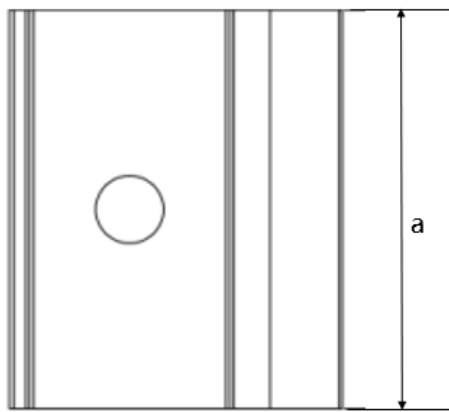
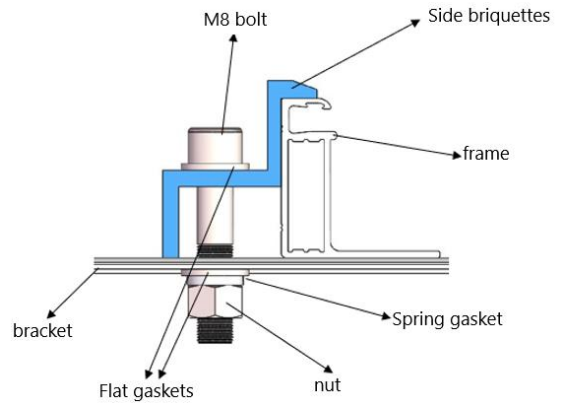

Fig. 7 Top view of fringe clamp
Fig. 9 Installation schematic diagram of fringe clamp
- ① Place the module on the two supporting rails (not provided by Astronergy) which should be made with stainless material and treated with an anti-corrosion process (e.g. hot dipped galvanizing). Each PV module needs at least four clamps to be fixed. The module clamps should not come into contact with the glass and should not deform the frame, otherwise they may cause module damage.
- ② Be sure to avoid shadowing effects from the module clamps. Weep holes on the module frame must not be closed or obscured by the clamps. The clamp must have at least 8mm but no more than 11mm overlap with the frame of the module (The clamp section can be changed under the premise of ensuring reliable installation).
- ③ The top surface of the rail contacted with module frame should be equipped with grooves compatible with an M8 bolt.
- ④ If the grooves are not provided, holes of a suitable diameter may need to be drilled to allow bolts attaching to the rail at the same locations as mentioned above.
- ⑤ Ensure that the mounting sequence of each clamp is in the order of flat washer, spring washer and nut.
⑥ Figures 7 and 8 show the schematic diagram of the clamp, while Figures 9 and 10 show the installation schematic diagram of the clamp. The dimensions of the clamp are  $a \geq 40$  mm,  $b \geq 16$  mm,  $c \geq 5$  mm,  $d \geq 8$  mm,  $e \geq 15$  mm,  $\varnothing = 9$  mm, and the thickness of the clamp is  $\geq 3$ mm. For module of 182/210mm-wafer, the size of mid and fringe clamp must meet  $a \geq 60$  mm. The tightening torque is suggested to be 17~23Nm for Class 8.8 screw and bolts.